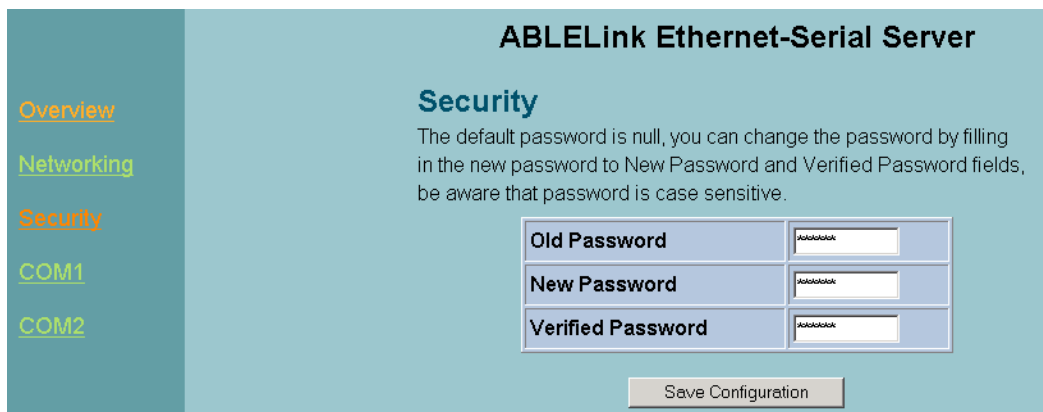

Fig. 24. Change the password
1. Click on the "**Security**" link and the following screen shall appear (Fig. 24)